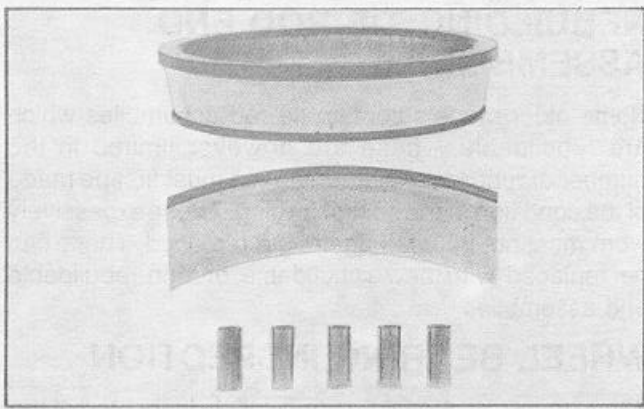

FIGURE 14
- (b) Deep indentations, cracks or breaks in bearing cup and/or cone surfaces (Figure 14).